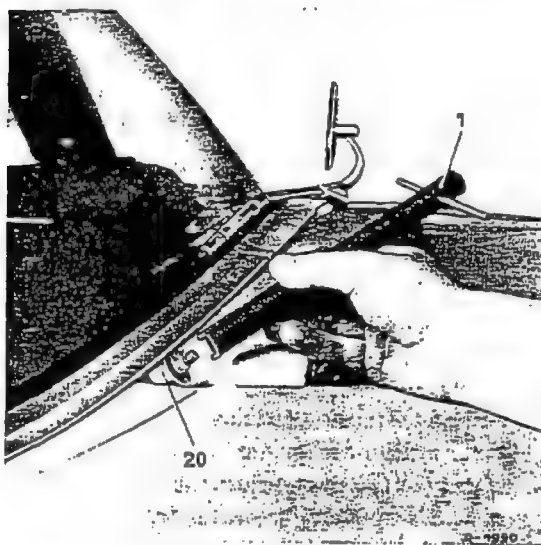

Fig. 82-4/6
- 10b. Take off the capsule (23). Unscrew the hexagon nut (22) and remove together with the washers (24) and (25). (2nd version.)
11. Unscrew the windshield wiper linkage together with the plate from the front wall and remove (Figs. 82-4/5 and 7).